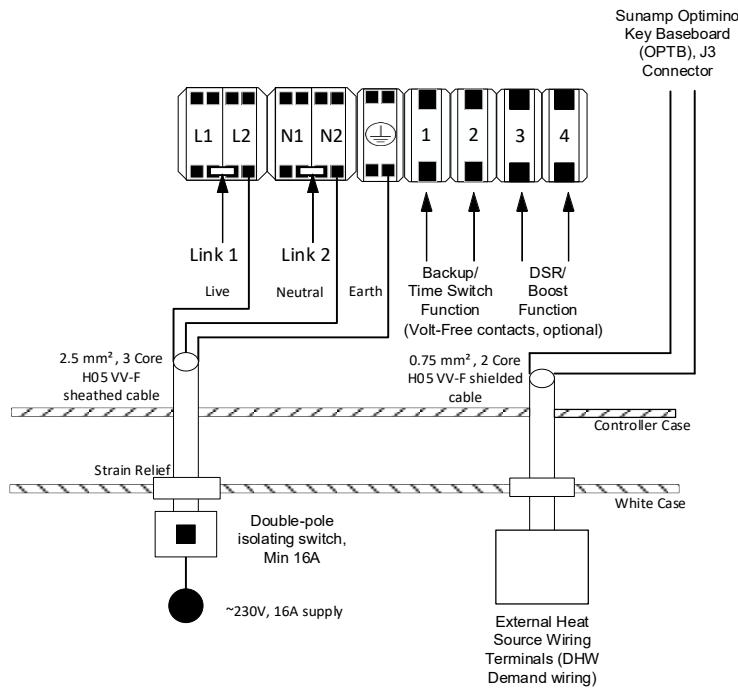

**Figure 10 – Thermino Heat Battery Grommets & Strain Reliefs**
- Remove the respective rubber grommets (item 3 -Figure 10) in the outer housing and cut the centres (with a cross) with a knife. Re-insert the cut grommets. Do not cut the grommets in place, as this may damage the VIP.
- (Refer to Figure 10) Move the cable strain relief fittings (1) to the side you wish to make the entries / exits. Cover all other holes in the enclosure with the supplied blanking grommets (2).